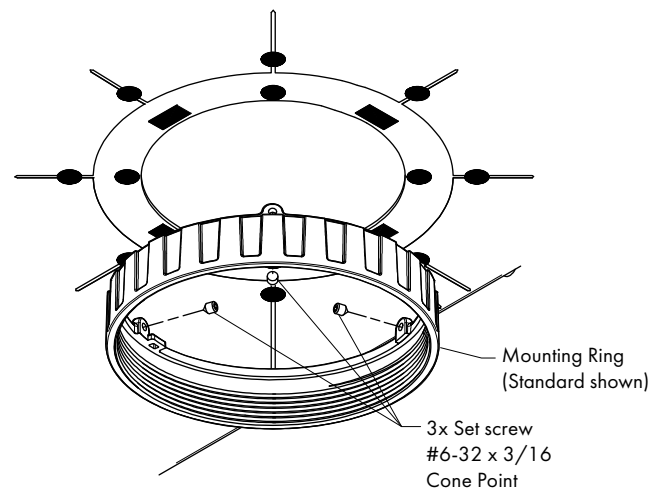

FIG 14.2 Install Mounting Ring
STEP 3 Insert Mounting Ring lip fully into Housing & fasten with 3x Set Screws using allen key supplied - **DO NOT OVERTIGHTEN**. Mounting Ring can be installed with or without ceiling in place - **FIG 14.2**.